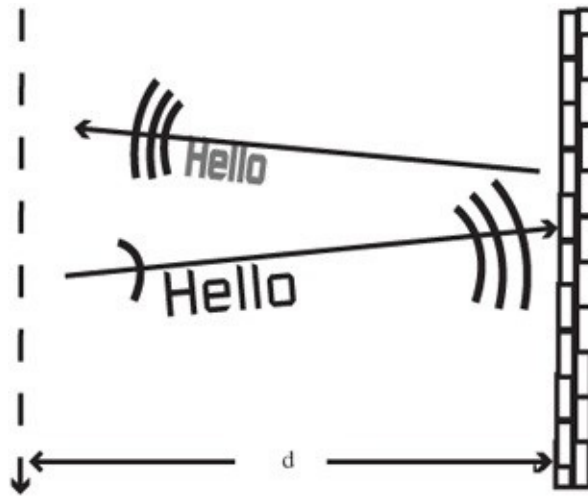

Figure 72-1 *Measuring the velocity of sound directly.*
3. To get the speed of sound, divide the distance by the time. See Figure 72-1.